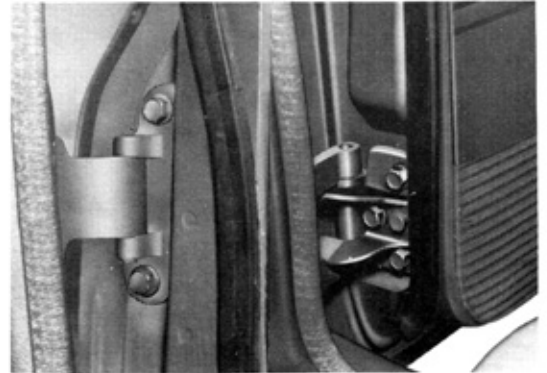

Fig.1-132 Hinge Adjustment V3076
3. To adjust the door for right-and-left, and up-and-down position, loosen the hinge attaching bolts on the door side (Fig.1-132).